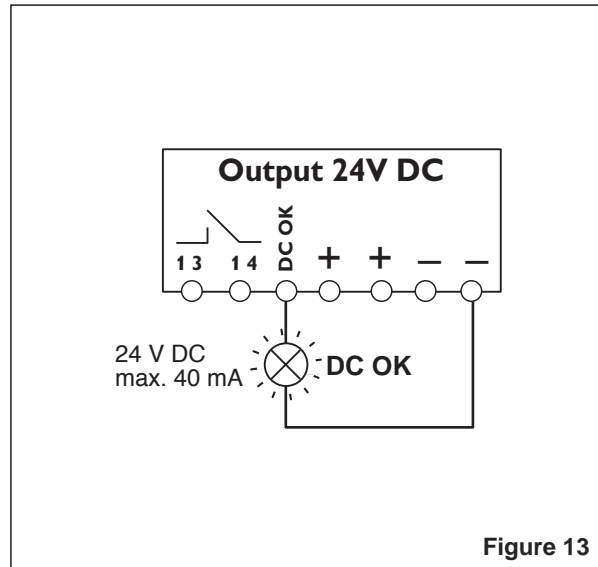

Figure 13
**Active Signal Output (Figure 13)**